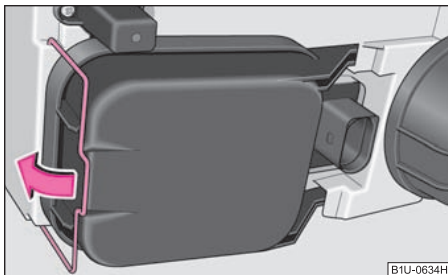

Fig. 180 Removing cover
- Press off the circlip from the cover and fold it in the direction of arrow ⇒ fig. 180.